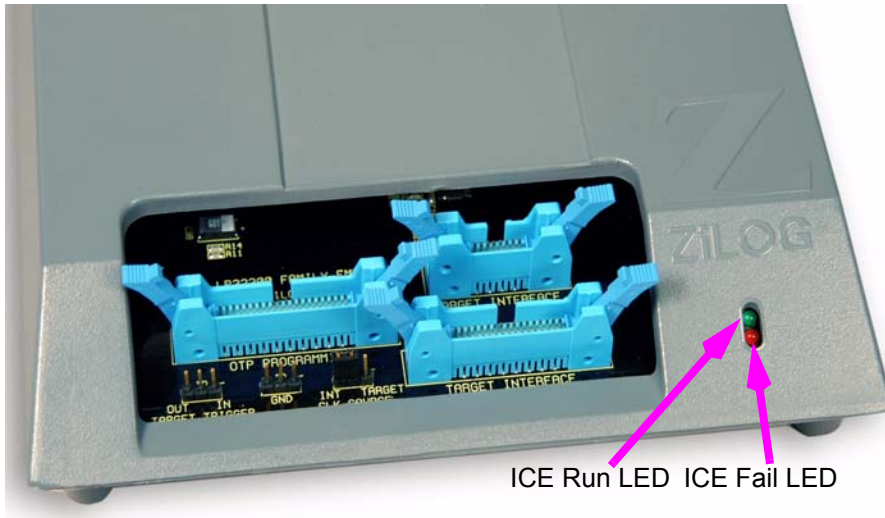

Figure 5. Z8 GP ICE Front-Panel
- Connect a 5VDC power supply to the Z8 GP ICE. The 3.3VDC should illuminate (see Figure 3). If the 3.3VDC LED fails to illuminate or the ICE Fail LED illuminates (see Figure 5), there is a problem with the unit. Contact ZiLOG support at <http://www.zilog.com> for a replacement unit.